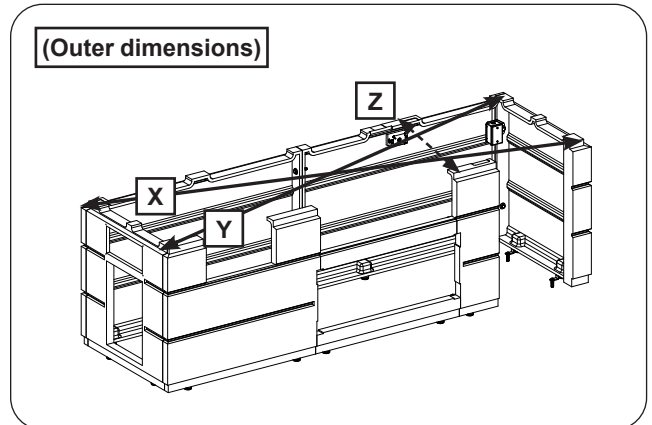

Fig. 10-2 Square unit (then tighten all bolts)
- a. Measure the X outer dimension, see Fig. 10-2. It should be approximately 117 $\frac{1}{8}$ "
- b. Measure the Y outer dimension, see Fig. 10-2. Carefully adjust the side walls as needed to ensure the X & Y dimensions are equal. (The final dimension may slightly vary from that mentioned in step a.)
- c. Measure the Z outer dimension, see Fig. 10-2. It should be approximately 32 $\frac{1}{2}$ ".